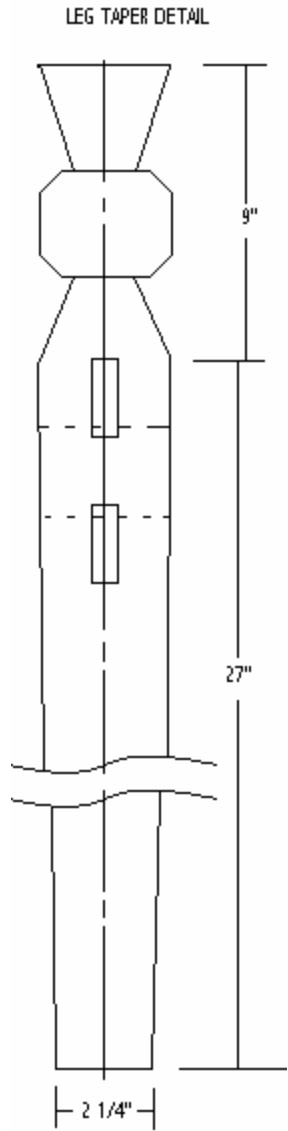

FIGURE 3
- To cut the taper, no ifs, ands, or butts, you need a tapering jig. You can make one, or buy one. Woodworking shops should know what you're talking about. Aluminum jigs should cost about \$10. Use the jig to taper the legs from the bottom of the decorative cuts down. See figure 4. Keep in mind; when you make the first cut, you have a straight edge against the rip fence. When you make the second cut, you have a tapered edge against the rip fence. So you must adjust the jig to cut twice as deep to get the same taper. You should remove a taper so that the bottom of the leg is $2\frac{1}{4}$ " and the top of the highest mortise is 3". Therefore you have to remove $\frac{3}{8}$ " on each of the four sides. See figure 3.